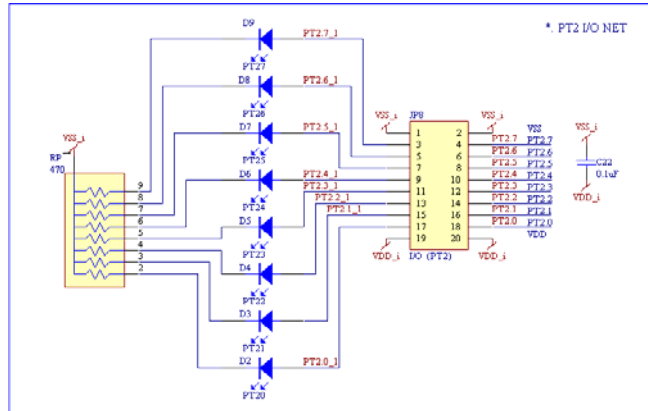

Figure 22
- ◆ JP8: PT2 Port is shown as Figure 22.